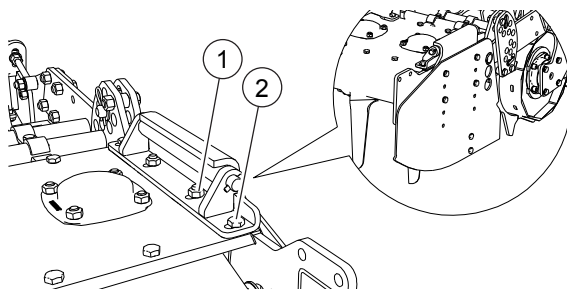

FIG. 28
- Loosen the bolts (2, “Fig. 28”).
- Loosen the nuts (1).